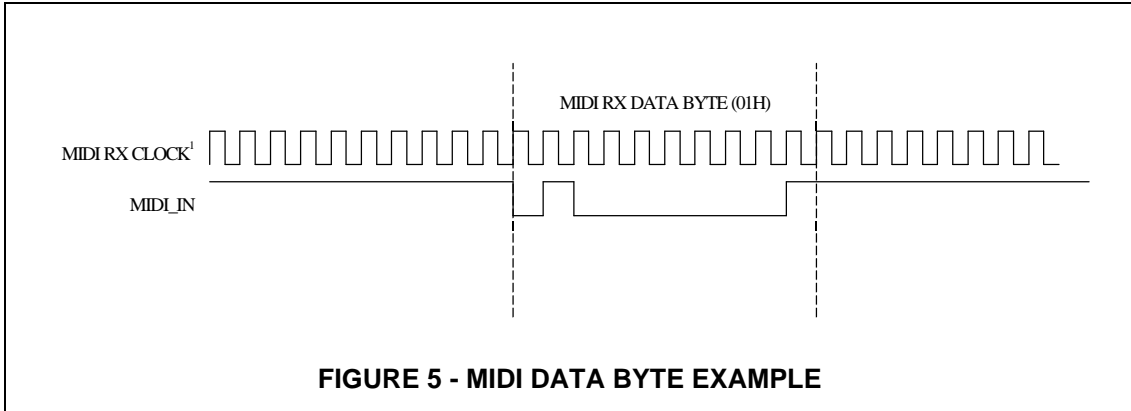

FIGURE 5 - MIDI DATA BYTE EXAMPLE
31.25k Baud ($\pm 1\%$) and 10 bits total per frame: 1 start bit, 8 data bits, and 1 stop bit. For example, there are 320 microseconds per serial MIDI data byte. MIDI data is transferred LSB first (FIGURE 5). The UART is configured in a full-duplex mode for the MPU-401 MIDI Interface with 16 byte send/receive FIFOs.